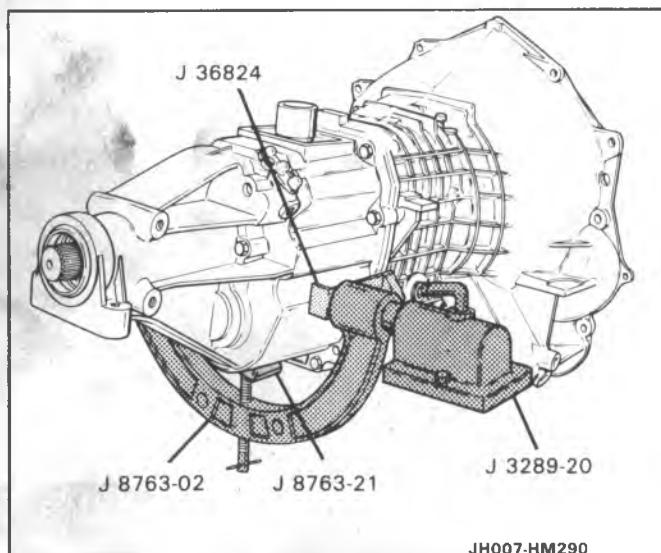

Figure 4 Holding Fixture Installed
- J 8763-21 onto J 8763-02 (Figure 4)